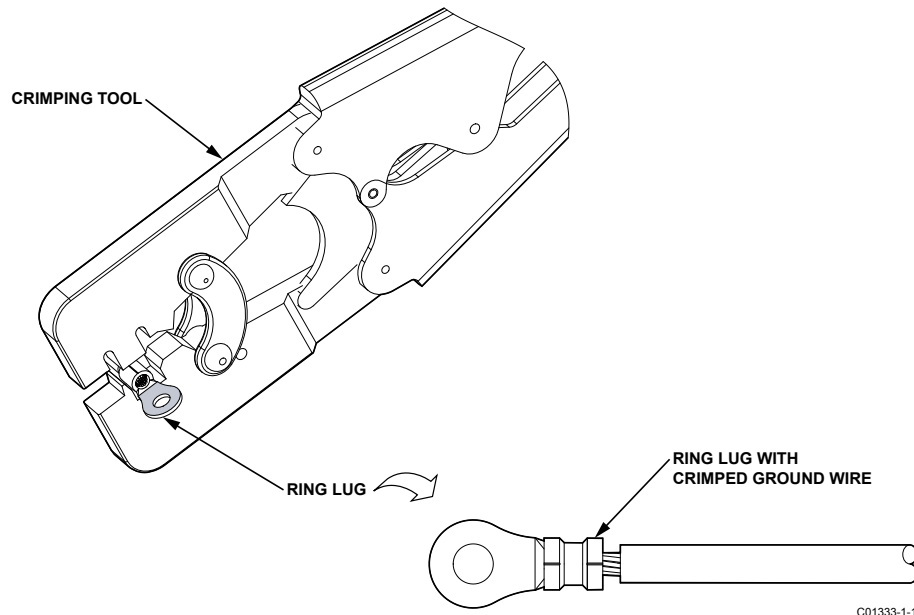

Figure 2-6 Crimping Ground Wire Ring Lug
5. While holding the wire in place, squeeze the tool handles together until the ratchet releases, then allow the tool handle to open fully. See Figure 2-6.
4. Run a five-conductor, shielded cable from the local enclosure to the remote enclosure. Use Table 2-1 to determine which wire gauge to use (wire between the local and remote enclosures according to Figure 2-6). It is recommended to include a 14 AWG wire between the two enclosures connected to the grounding lugs and then to earth ground close to the control circuit housing, with the connection not to exceed 1 ohm.